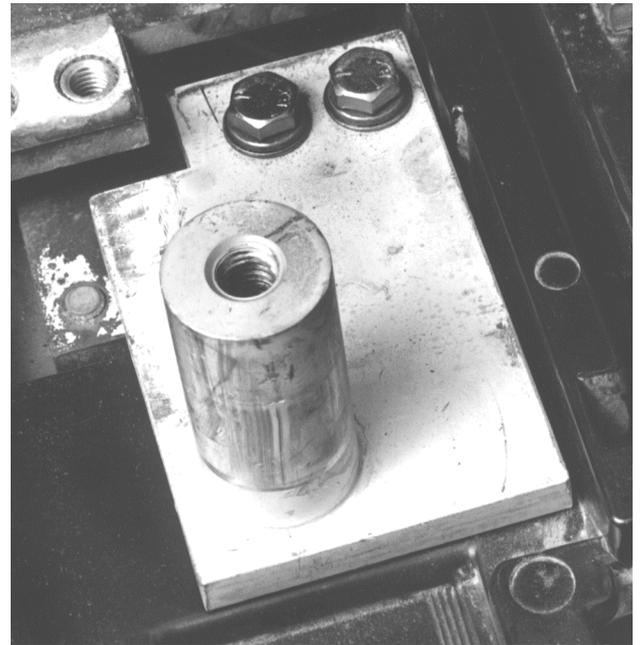

Figure 19. CT post mounted in the breaker back frame.
1. Mount the new copper CT post to the back frame with the two $3 \text{ } 8\text{-}16 \times 1\frac{1}{2}$ " bolts, flat washers, and lock washers provided, as shown in Figure 19.